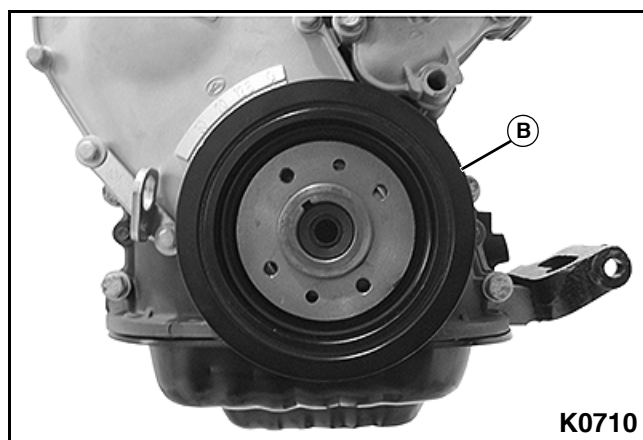

Figure 3-87
2. Carefully install crankshaft vibration dampener to crankshaft so as not to damage front crankshaft seal. Tap crankshaft vibration dampener with a soft face hammer to seat dampener to crankshaft. **See Figure 3-87.**